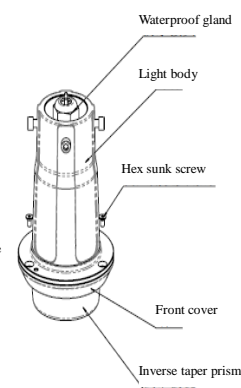
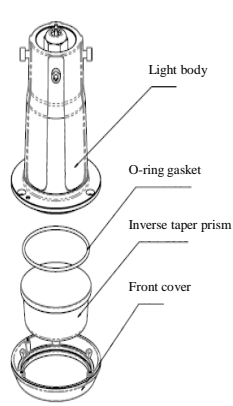

Figure 5-6
Figure 5-7
2. Place the lighting fixture top downwards, please protect the inverse taper prism and unscrew the waterproof gland cap; unscrew 3 M4 hex sunk screws with the socket head wrench (Figure 5-6) and dismount the front cover, inverse taper prism and light body gasket in succession (Figure 5-7).